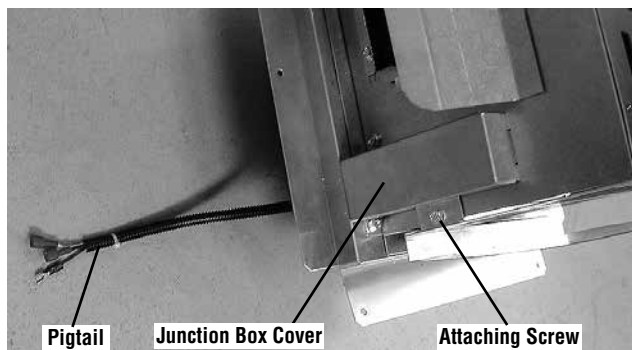

Figure 30 - Bottom of Termination
- Locate a locally procured electrical junction box within reach of the termination wiring pigtail (*refer to Figure 30 on Page 24*) and route the pigtail to the junction box as the termination is installed.
- Remove the junction box cover from the termination by removing the attaching screw (refer to Figure 30).
- Loosen the strain relief on the termination shown in Figure 30. Pull the pigtail in and shorten it to fit within the junction box cover.